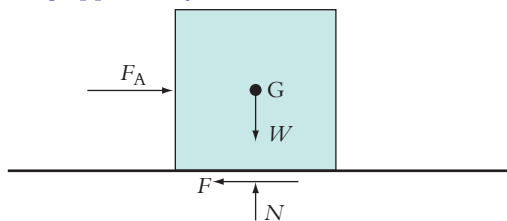

Figure 5.54
Consider the block shown in Figure 5.54. The forces are shown and you will notice that we have the equivalent of a free body diagram. The gravity force or weight (W) is shown acting downwards and this is opposed by the normal reaction (N) acting upwards. The force being applied in order to move the block (F_A) is being opposed by the frictional force F .